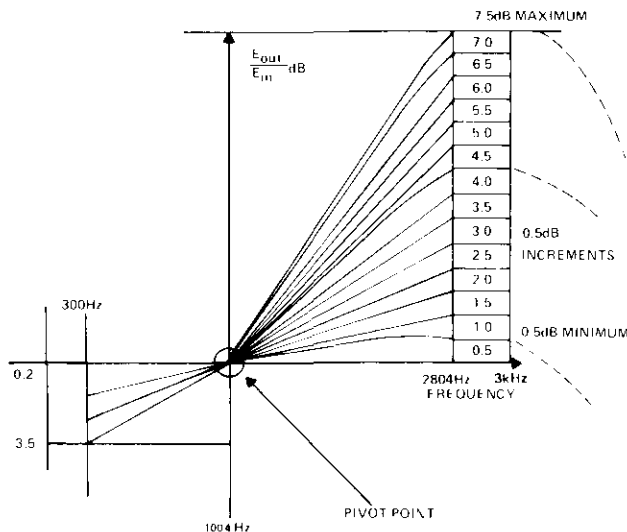

figure 3. Basic operation of 6962's integral receive equalizer and 9908A Active Slope Equalizer subassembly
**2.06** Equalization similar to that which is integral to the 6962's receive channel can be optionally provided in the module's transmit channel. This is done by equipping the 6962 with the Tellabs 9908A Active Slope Equalizer subassembly, which plugs into a five-pin female connector on the module's printed circuit board. The transmit-channel equalization thus provided is primarily intended for pre-equalization of facility-side transmit pairs consisting of nonloaded cable when post-equalization is unavailable at the distant end of the SF facility. Like the integral receive equalizer, the 9908A provides up to 7.5dB of gain at 2804Hz (re 1004Hz) in switch-selectable 0.5dB increments. Also, typical flatness achievable with the 9908A is similar to that achievable with the receive equalizer. Typical frequency response of the two equalizers, however, differs slightly at the same equalized gain setting. Figure 3 shows how both equalizers operate, including how the various frequency-response curves achievable via the two equalizers "pivot" at 1004Hz. Not shown in figure 3 are the slight frequency-response differences between the 6962's integral receive equalizer and the 9908A subassembly. Instead, these differences are indicated in tables 1 and 2, which provide specific frequency-response information for typical applications of the 6962's receive equalizer and the 9908A subassembly, respectively.